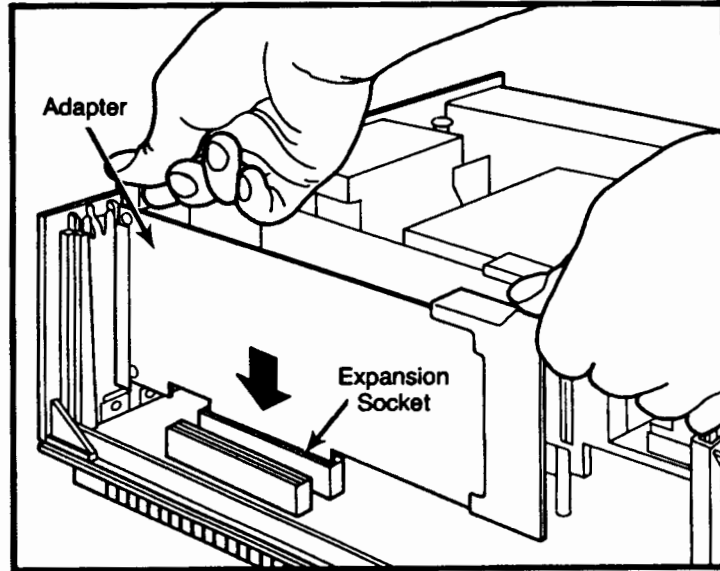

Figure 4-5. Installing the Adapter
7. Position the adapter in your computer as shown in figure 4-5.